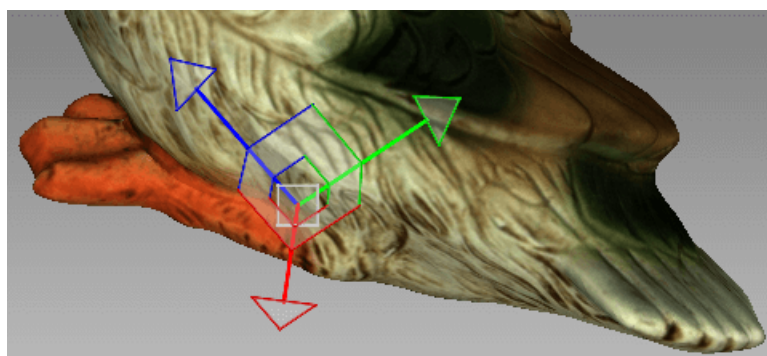

Figure 116: Translation control
- Translate the object in the *3D View* window by dragging the corresponding control (see Figure 116):